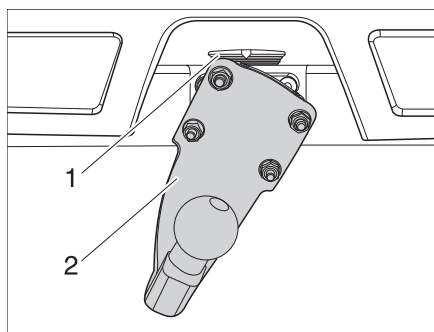

Fig. 4 Tow coupling
- Set the tow coupling (Fig. 4,2) at an angle of 90° to the latch (Fig. 4,1).
- Swivel the tow coupling (Fig. 4,2) downwards until the latch (Fig. 4,1) latches in.
- Press the latch (Fig. 4,1) upwards.
- Swivel the tow coupling (Fig. 4,2) 90° to the left.
- Release the latch (Fig. 4,1).
- Remove the tow coupling (Fig. 4,2).